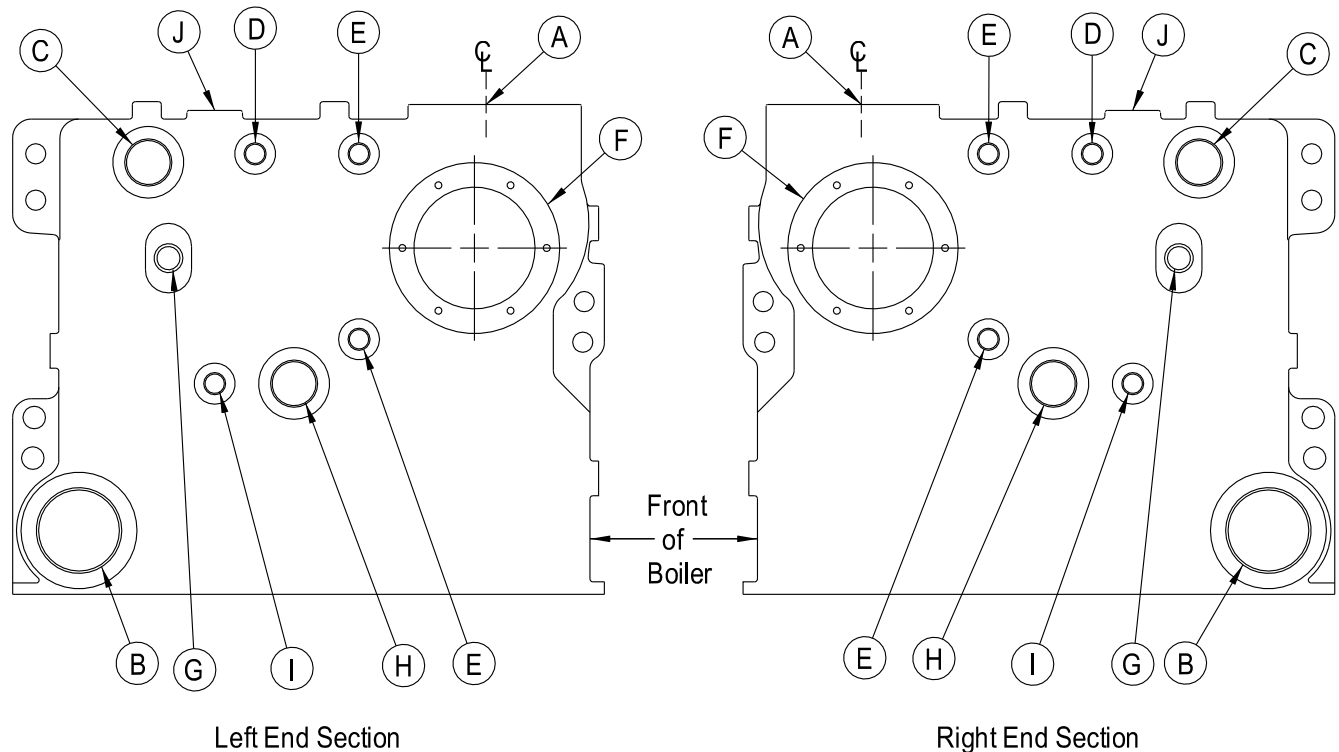

Figure 22: Steam Boiler Tapping Locations
- 4) Boiler trim may be installed on either the left or right side of the boiler. Table 4B shows the uses of all steam boiler tappings. The tapping letter designations referenced below are shown in Figure 22: